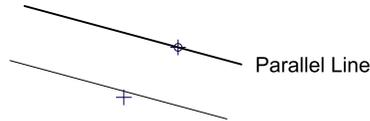

Figure 9-8: With this tool, the parallel can be positioned to go through a given point.
3. Click the point through which the parallel line goes. This can for example be an existing intersection point, grid point, end point, etc. The parallel is created as a line that is parallel to the chosen line and goes through the chosen point as shown in Figure 9-8.